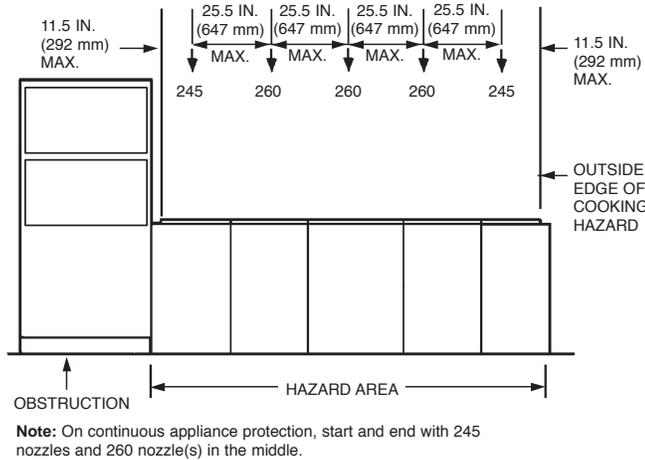

FIGURE 4-118
- When obstructions are located adjacent to appliance(s) protected by overlapping nozzles, the overlapping appliance nozzle spacing must start with the appliance(s) adjacent to the obstruction. See Figure 4-118.